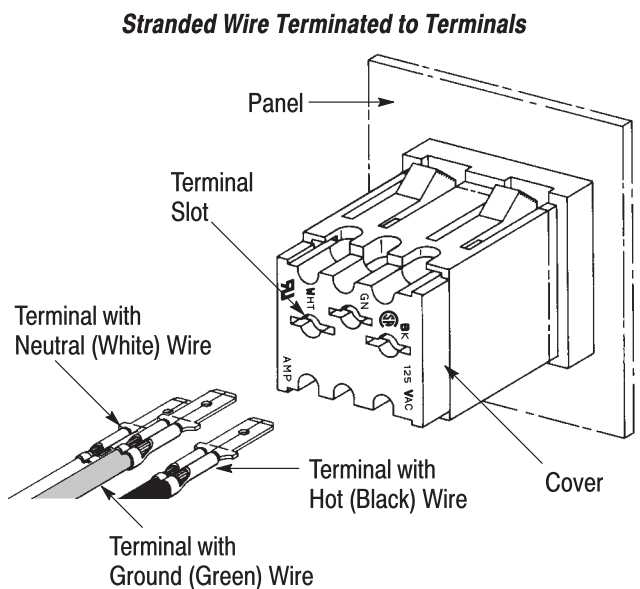

Figure 3
4. Insert and seat each crimped terminal into its respective terminal slot according to the wire color-coded markings. See Figure 3.
- Removed reference to solid wire from Figure 3